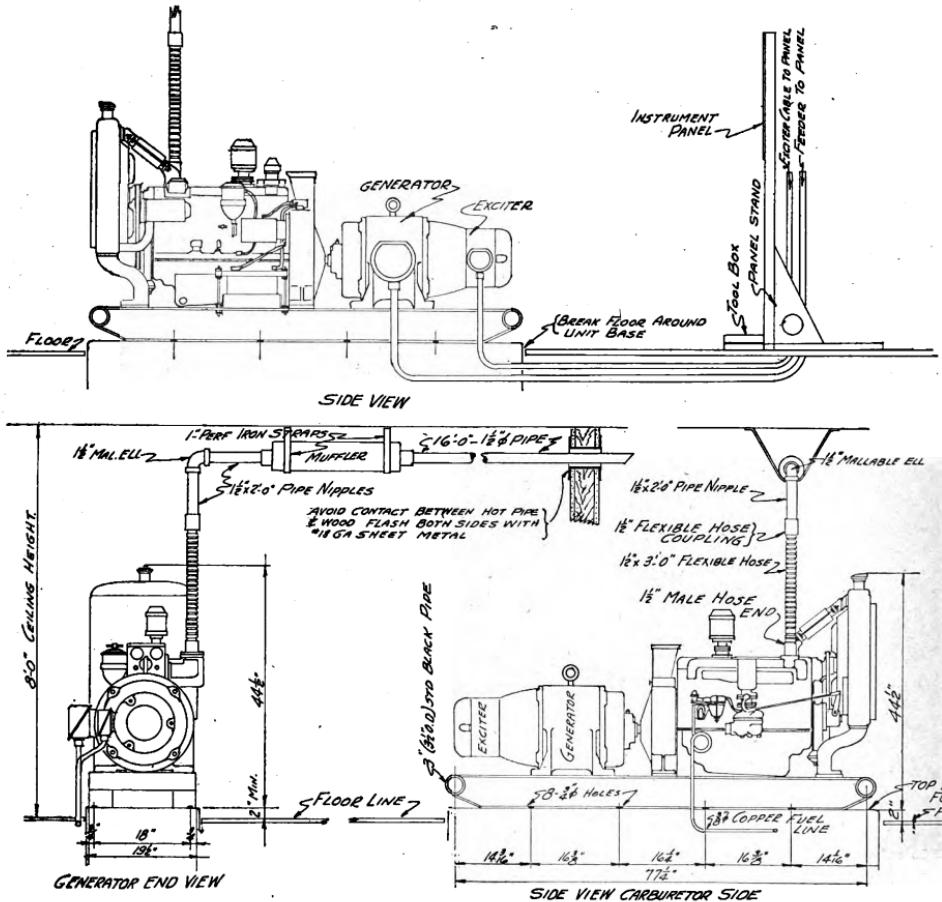

Figure 6. Typical installation of unit in building.
(1) SPACE REQUIRED (fig. 6). Locate the power unit so that at least 3 feet of space is provided between the nearest wall and engine. Less space will cramp the personnel performing maintenance on the wall side of the unit. Arrange the unit so that the radiator front is near a wall, thus making possible the use of the canvas duct, one end of which is attached to the angle frame on the radiator front, and the other end to a suitable opening in the wall. Avoid any bends. The ceiling height should be about 8 feet to permit the proper installation of the exhaust pipe and muffler.
(2) FOUNDATION. Construct a concrete or timber base extending about 2 inches above the floor level. Shock absorbing material may be used between the skid base and the foundation. The power unit must be level. Place the foundation bolts at the required points as shown in figure 6. Do not tighten the bolts until the cement is hard.
(3) EXHAUST. Gasoline-engine exhaust gas is a deadly poison, and must be piped outside the building. Connect the section of the flexible line to the engine manifold. Connect the exhaust pipe provided, from the flexible line to the muffler inlet, and from the muffler outlet to the outside of the building. Make all connections mechanically secure and gas tight. Pitch the muffler so that condensed water in the exhaust system will not flow back into the engine. The drain plug on the muffler must face down. Install a metal flashing around the exhaust pipe if it passes through an inflammable wall or partition. Maintain at least a 6-inch clearance between the pipe and the wall. Support the pipe at both ends of the muffler by using suitable straps suspended from the ceiling or other projection available.
(4) FUEL SYSTEM. Connect the 6-inch length of the flexible gasoline tube to the fuel pump inlet (fig. 6). Connect the $\frac{3}{8}$ -inch copper tubing from the end of the flexible tube to the gas tank which is located at a point not more than 20 feet away from the power unit. Avoid using more than the 20 feet of copper tubing supplied with the unit. The fuel pump may not be able to pump the fuel with sufficient pressure if the line is longer than 20 feet, or if the fuel tank is too far below the level of the pump. Install the fuel tank as far from the exhaust outlet as possible. Be sure the tank is vented properly by maintaining a hole in the filler cap or by providing a vent pipe. Keep the gas line at least 1 inch from the bottom of the tank.